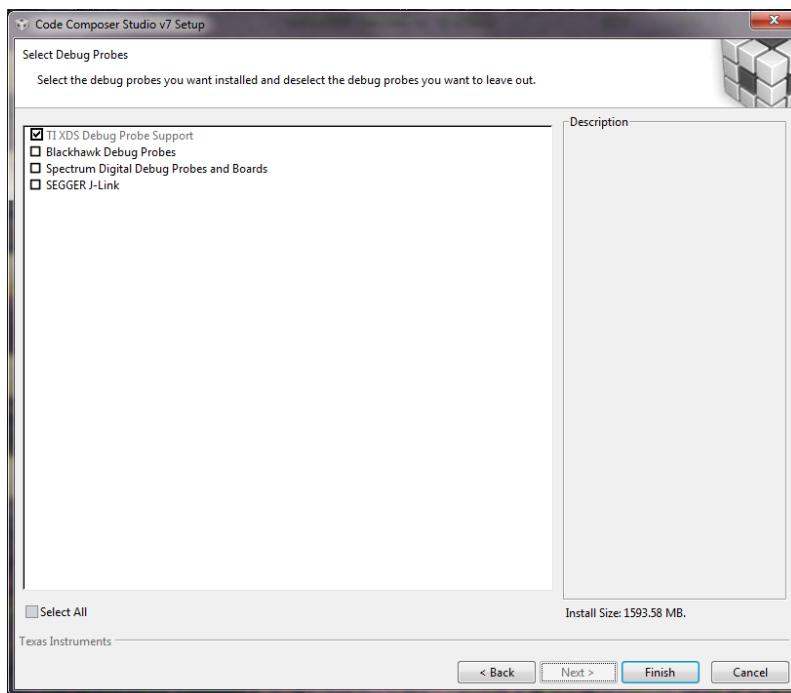

Figure 68 CCS debug probe selection
- We are using **XDS110 debug probe**. Therefore, we will choose **XDS** under **debug probes**, as shown in Figure 68 and hit next. If you are using a different